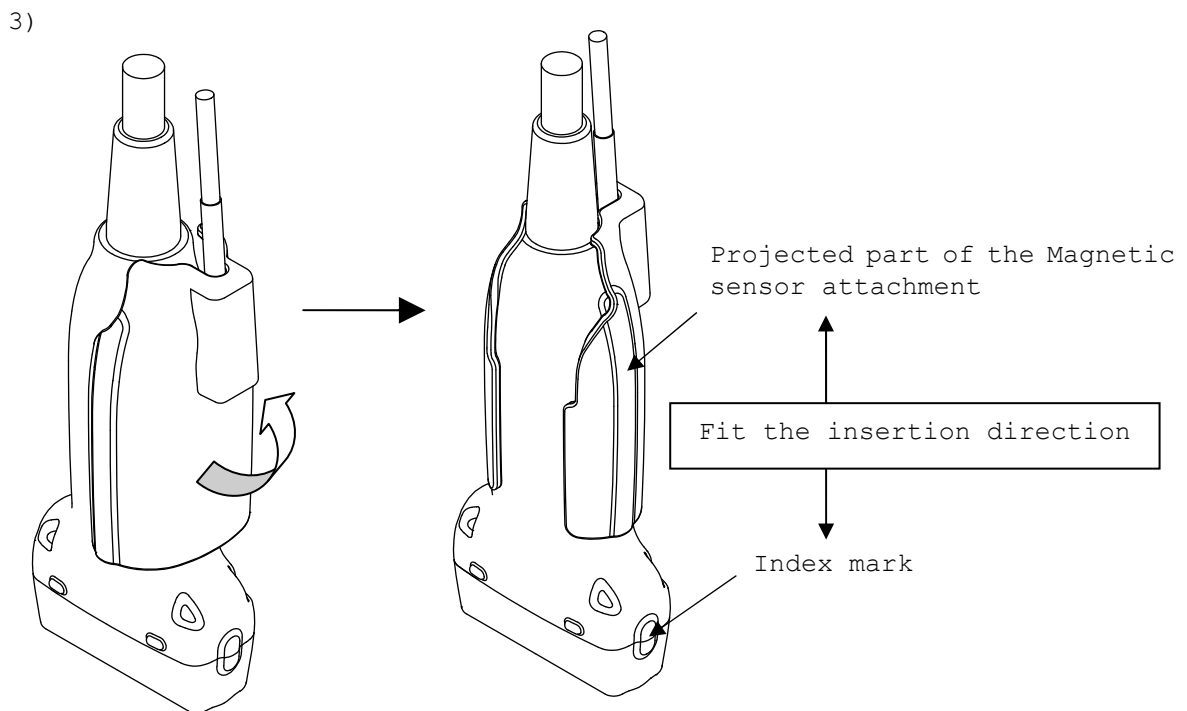

Fig. 5 How to attach the Magnetic sensor attachment
- 3) Place the magnetic sensor attachment on the probe as shown in Fig. 5. Fit the projected part of the magnetic sensor attachment in the index mark of the probe.